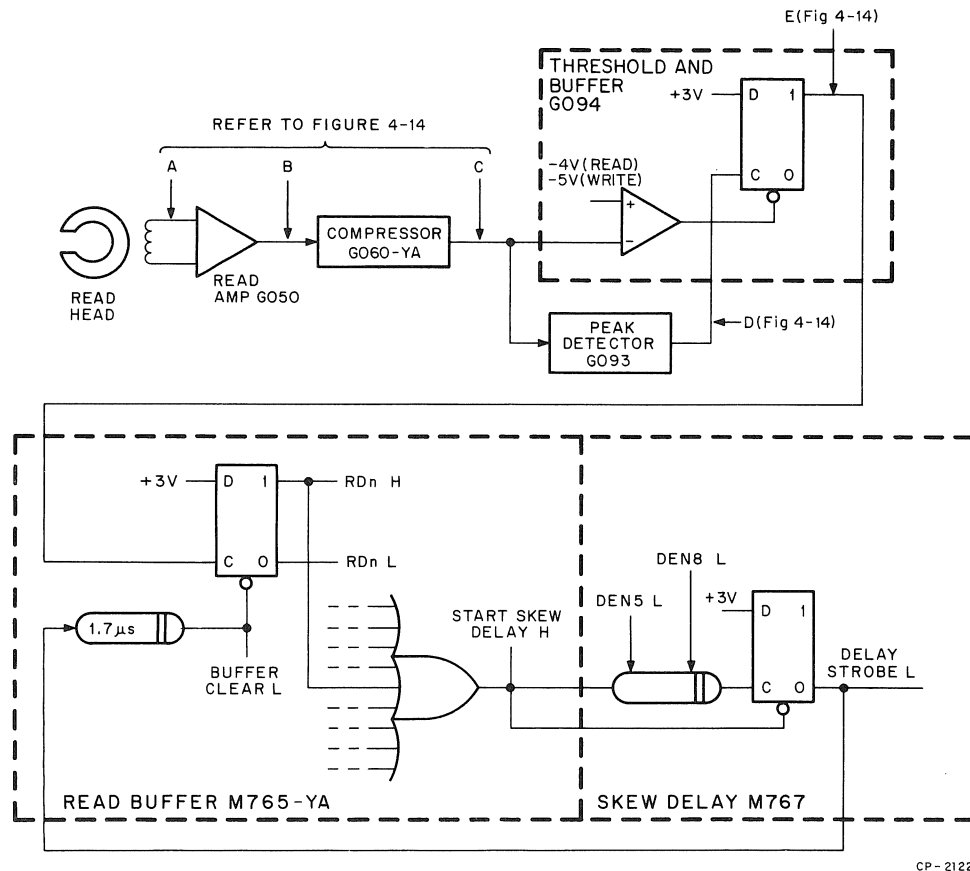
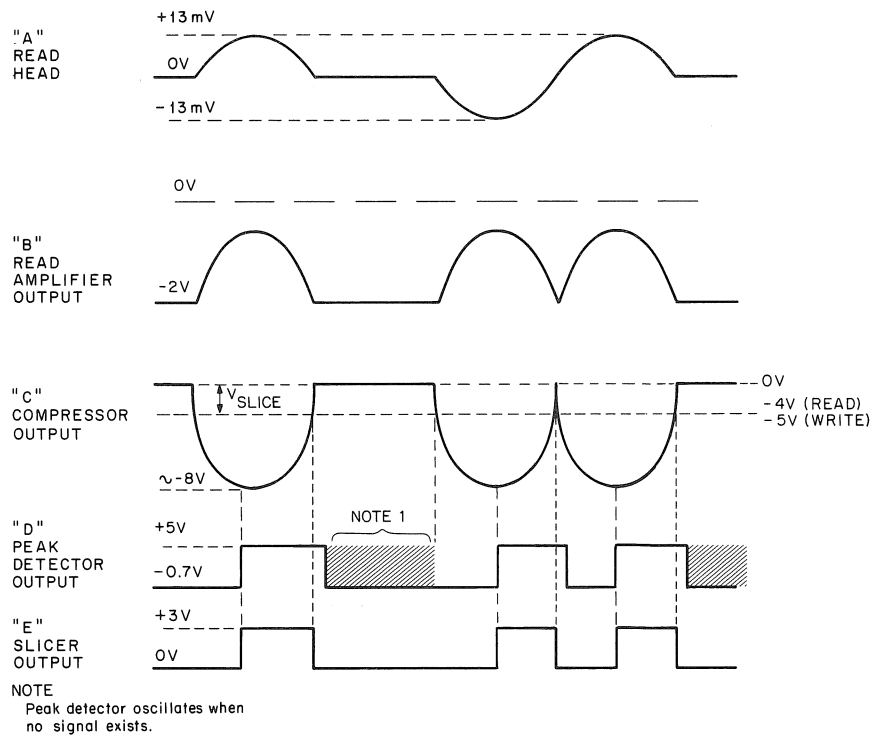

Figure 4-13 Equivalent Circuit of Read Timing and Read Circuitry for One Track (Units Above No. 10320)
Figure 4-14 Read Circuit Waveforms (Units Above No. 10320)
4.4.5.2 TU10 DECmagtape Transports Above No. 10320 – An equivalent circuit of one of the 9 (or 7) read channels is shown in Figure 4-13. Figure 4-14 shows possible read signal waveforms at the indicated points. For more complete and accurate representations, see drawings D-BS-TU10-0-10 and D-BS-TU10-0-08. Although for simplicity this discussion considers only one read channel, the user should remember that the read electronics includes either 9 or 7 identical, parallel read channels.
Unlike the G060 used in prior units, the G060-YA does not induce a variable dc offset in its output signal. Rather, its output always maintains a null signal level slightly (approximately 0.3V) below ground (Figure 4-14).
The Compressor output is routed to two circuits, the G093 Peak Detector and the G094 Threshold and Buffer. The G093 is a true peak detector, differentiating the input signal to produce a transition about one microsecond after the input peak occurs, regardless of the amplitude or shape of the peak. As Figure 4-14 indicates, the output of the G093 oscillates when no signal is fed to it.